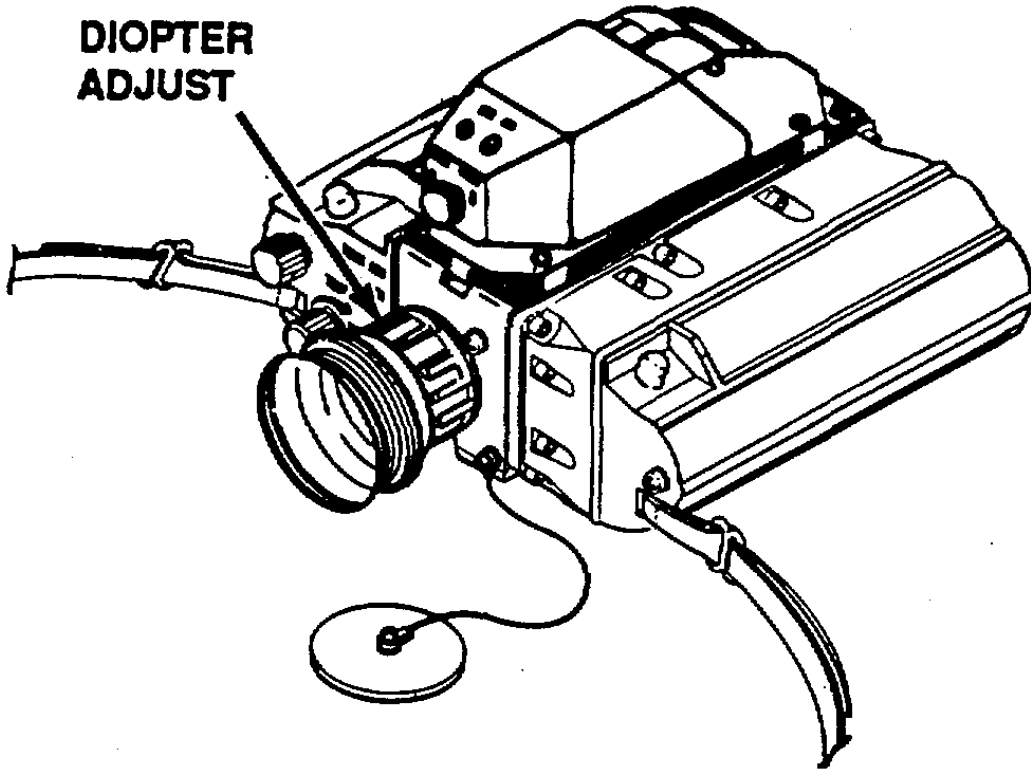

Figure 2-6. Diopter Ring
e. Diopter Adjustment (Figure 2-6).